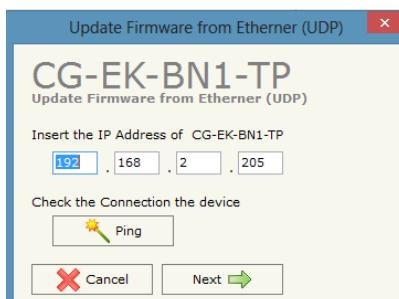

Figure 12 - Update configuration form
- Write the IP address **192.168.2.205** inside the Update Configuration form (see Figure 12 – Update configuration form)
- Provide the device IP address (see Figure 12 – Update configuration form). Make sure that the PC's network parameters are consistent with the IP address assigned to the device. Otherwise, change the PC's network settings
- Press *Ping* button; if you correctly applied the procedure, the text "*Device found!*" will appear (see Figure 12 – Update configuration form)
- Press *Next* button (see Figure 12 – Update configuration form)
In case of manual firmware update, replace “Sim67818.sim” file in the system folder “C:\Program Files (x86)\Ekinex\Compositor\_CG-EK-BN1-TP\Master”. After replacing, open *Update configurazione* form (see Figure 12 – Update configuration form) in the application program and start the proper sequence.